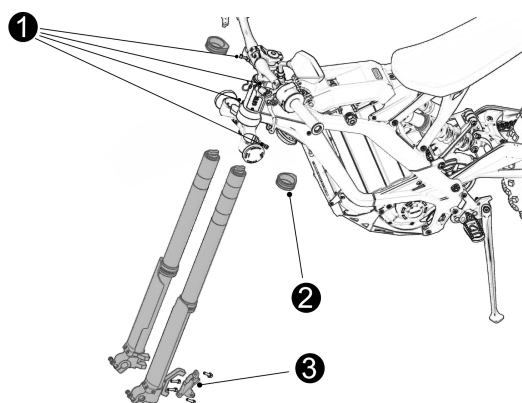

Fig 15
6.4.5 Dismount front shock absorber (see Fig 15)
- Dismount bolts of front brake caliper and take down front brake caliper③
- loosen fastening bolts of front shock absorber of front steering column①, take down steering limiting gommure of shock absorber②, and take down front left and right shock absorbers